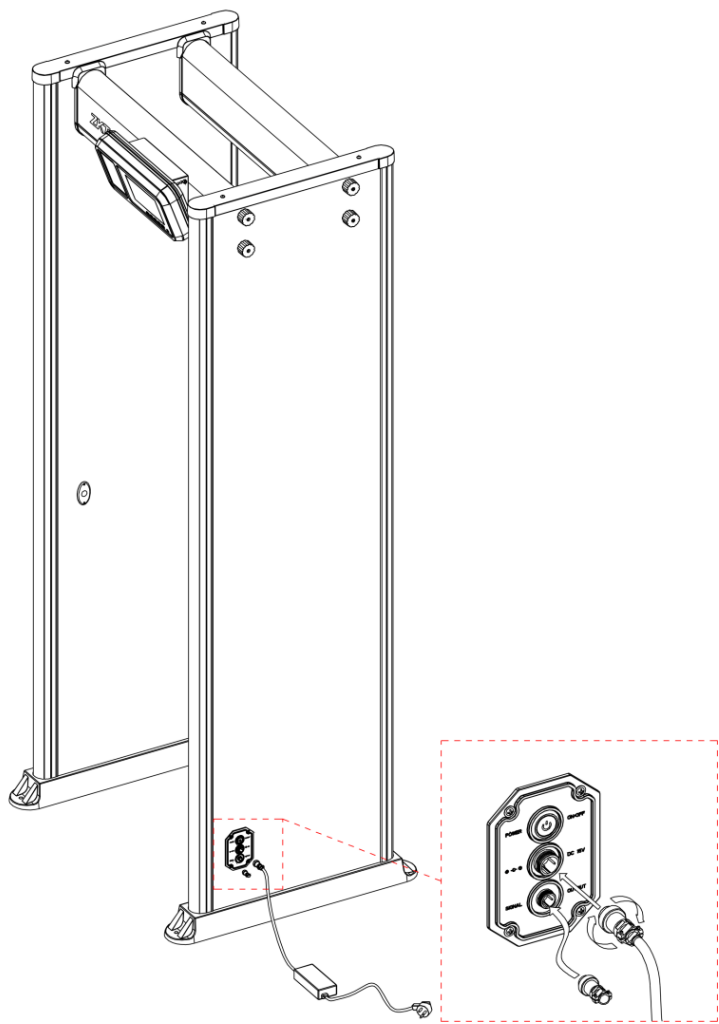

Figure 3-12
Step 10: Lift and move the security gate to the designated working position, connect the side power cord, and press the power switch to enter the working state, as shown in the figure 3-12 below.